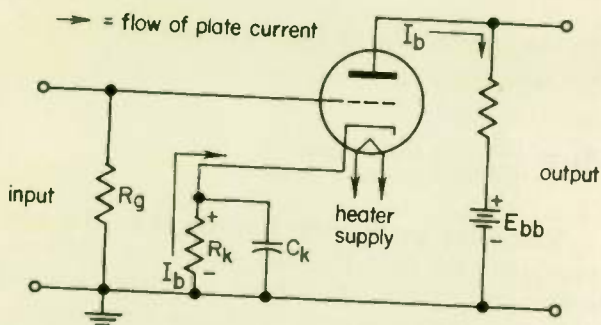

Fig. 18 Amplifier with cathode bias.
Up to this point in our discussion of vacuum tubes, the control grid bias has been obtained from a separate d-c supply, E_{cc} . Because of the cost of an additional power supply, this is avoided in actual practice when possible. One of the most common methods for placing the control grid at a negative potential with regard to the cathode is to use a resistor in the cathode lead, resistor R_k in Fig. 18.
The control grid bias is the reading obtained by a suitable voltmeter connected between grid and cathode. That is, the tube bias is the potential difference between grid and cathode, and not between grid and ground. If for example, the voltage drop across R_k in Fig. 18 is 5 volts, the grid bias on the tube is -5 volts, even though the grid-to-ground voltage is zero.
For example, assume for the triode tube of Fig. 18 a grid bias of -2 volts is desired and I_b is 4 ma. Then,
15 **BLOCKED GRID . . .** You have previously learned that the grid resistor R_g in Fig. 18 provides a d-c path through which the bias voltage can be applied to the grid of the tube. Also, you have learned that R_g should be high in order to effectively block the input a-c signal so that it does not bypass to ground through R_g . From the standpoint of doing the best job of blocking the incoming signal, the greater the resistance of R_g the better. However, if R_g is too high, it will be found that the tube functions erratically and that the plate current may cut off.
1. Refer to Fig. 18. Resistor R_g provides a path for (a) _____ to ground from the (b) _____. If R_g is too large or is left out completely, the (c) _____ condition will develop, which will cause the tube to operate erratically or (d) _____ conducting.
2. Assume the amplifier of Fig. 18 is to have a grid bias of -10 volts and the plate current is equal to 40 ma. The required R_k value is _____ ohms.